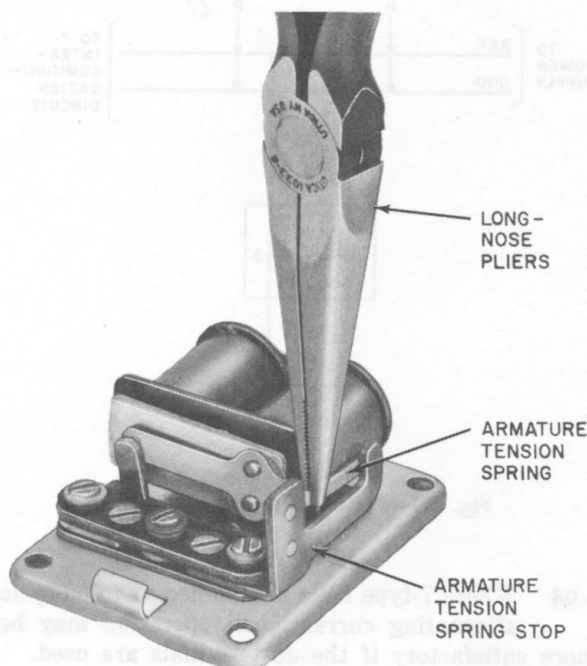

Fig. 17—Adjusting Armature Tension Spring
- (a) To increase tension, place long-nose pliers on armature tension spring as shown in Fig. 17 and adjust spring in direction away from coils. This will raise sound pitch of buzzer.